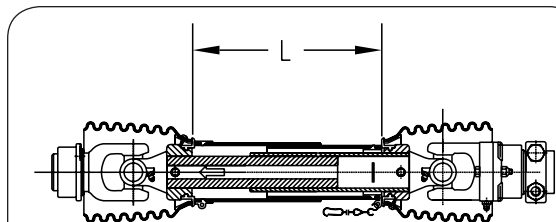

FIG. 4-45
1. Fully collapse PTO shaft and measure length "L" (Fig. 4-45).